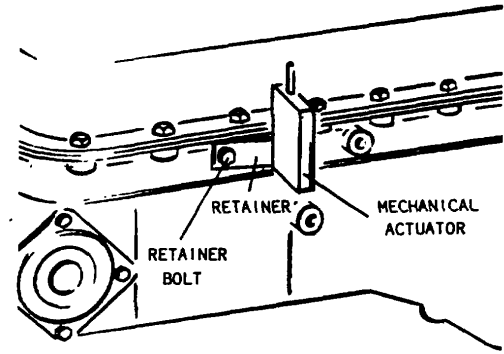

Fig. 7-36. Installing Mechanical Actuator retainer bolt
(4) Install the retainer, bent tabs toward transmission, and secure it with a 5/16-18 x 3/4-inch bolt (Fig. 7-36). Tighten the bolt to 15-20 lb ft (20-27 N-m).